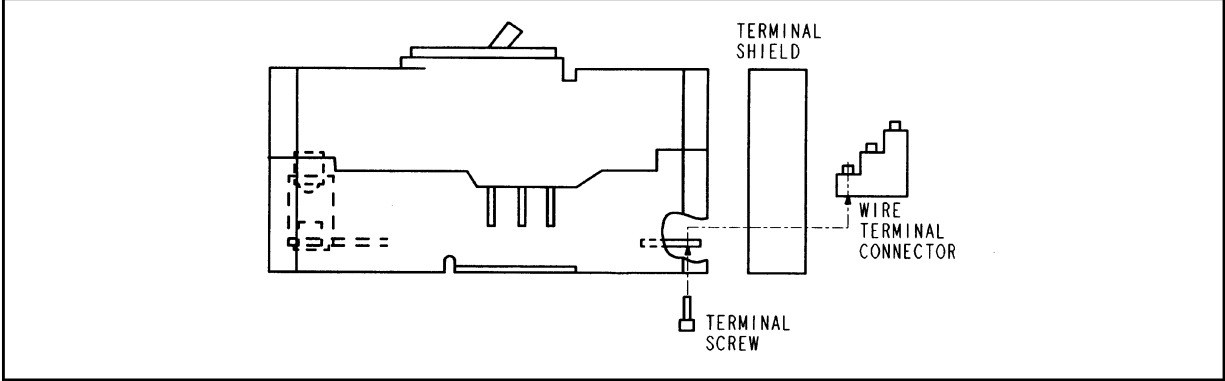

Figure 1. Typical K-Frame Circuit Breaker Installation
If circuit breaker is installed in equipment, it **MUST** be removed from equipment for installation of this kit. This kit is intended for use **ONLY** on the **LOAD END** of the circuit breaker. See Figure 1.
2. Install terminal to each pole with provided mounting screw as shown in Figure 1. Torque mounting screw to 72-96 Lb.-In.
3. Install molded insulator to the breaker, as shown in Figure 1.